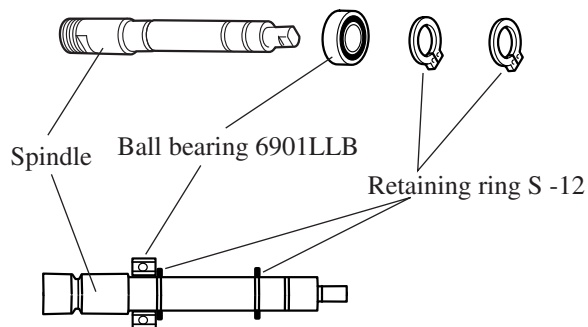

Fig. 6
- (1) Assemble ball bearing 6901LLB and 2 pcs. of retaining S -12 to spindle as illustrated in Fig. 6.